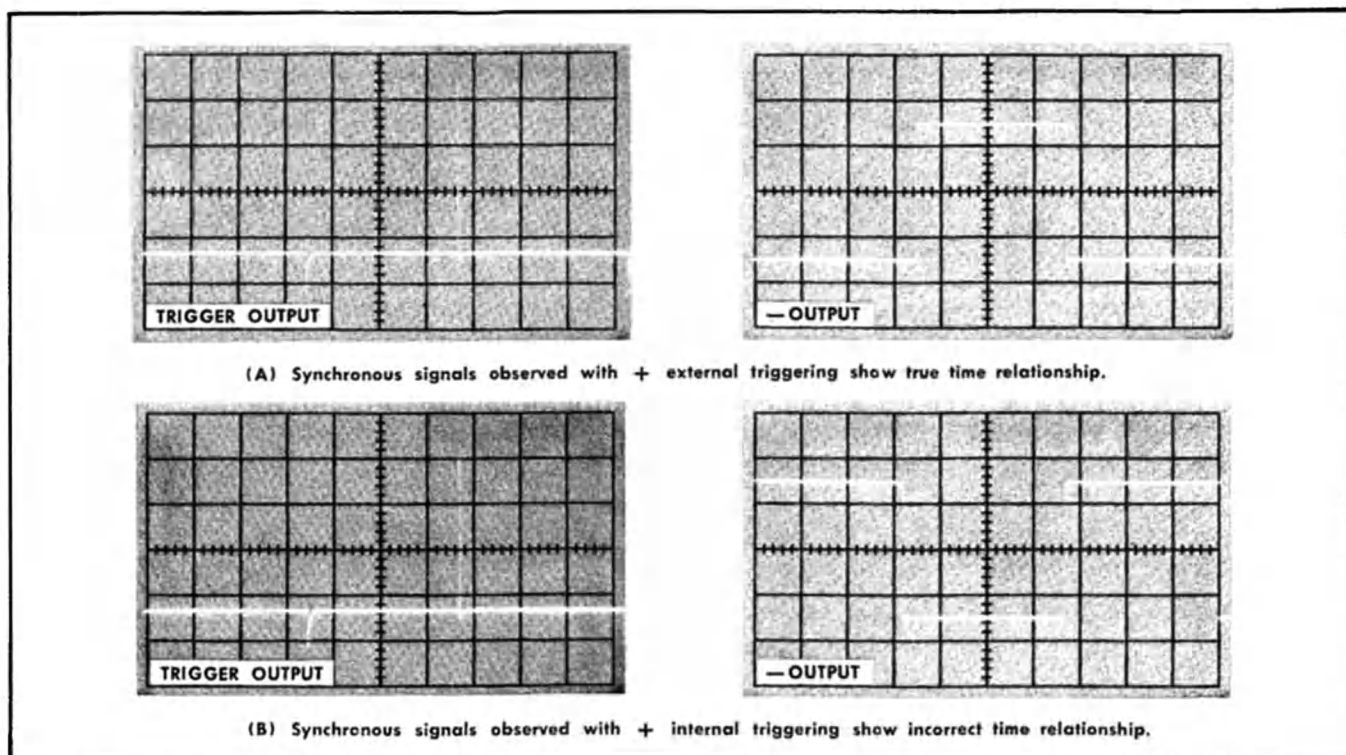

Fig. 2-13. Importance of external triggering for phase or polarity comparison. (Signals supplied by Tektronix Type 106 Square-Wave Generator.)
**Phase and Polarity Relationships.** When internal triggering is used, the signal slope displayed at the beginning of the sweep is dependent upon the trigger slope selected by the operator. If a comparison of phase or polarity is required, use external triggering and the same trigger source for the entire sequence of phase or polarity comparisons. The examples in Fig. 2-13(B) use  $+$  internal triggering and give the indication that the positive spike is coincident with the rising portion of the square wave. The examples given in Fig. 2-13(A) both use the same  $+$  external trigger source and show that the square wave actually goes negative at the time the positive spike occurs.